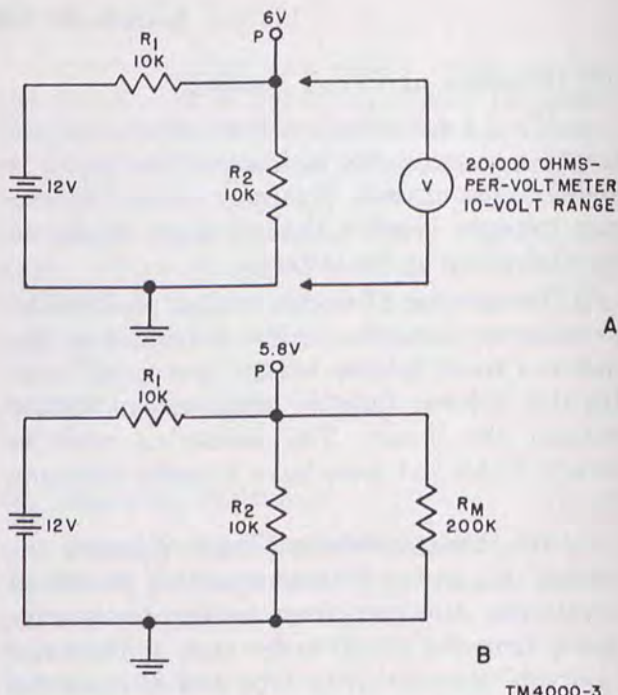

Figure 17. How a sensitive voltmeter minimizes the effects of circuit loading.
b. An example of using a more sensitive meter is shown in figure 17. The voltage is measured between point P and ground with a 20,000 ohms-per-volt meter. In B, figure 17, R_M is shown to be 200,000 ohms. This resistance in parallel with R_2 , which is 10,000 ohms, results in an effective resistance of 9,524 ohms, and the current is about .6 ma.